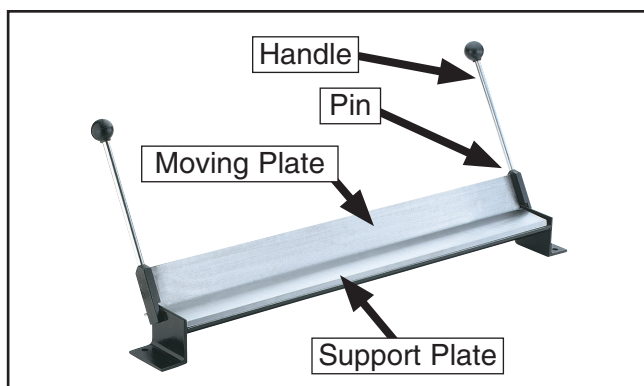

Figure 1. Identification.
3. Insert the handles into the pins (see **Figure 1**).